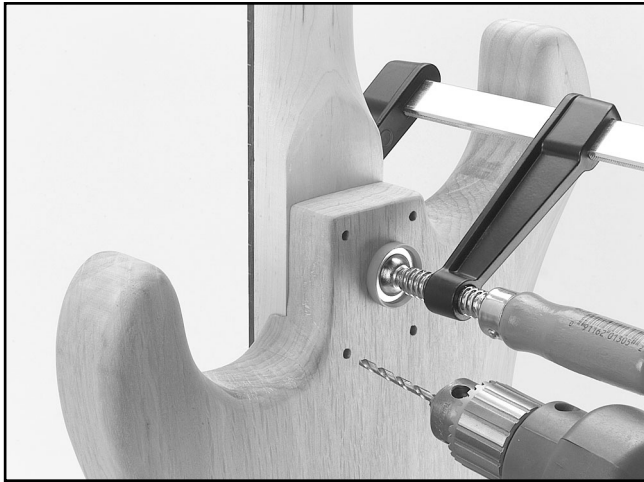

Figure 13. Drilling the screw holes.
- Using a $\frac{5}{32}$ " drill bit, drill $1\frac{3}{4}$ " deep holes straight through the four holes in the back of the body (**Figure 13**). Note—*Drilling the holes deeper than $1\frac{3}{4}$ " could result in drilling out through the fingerboard.*